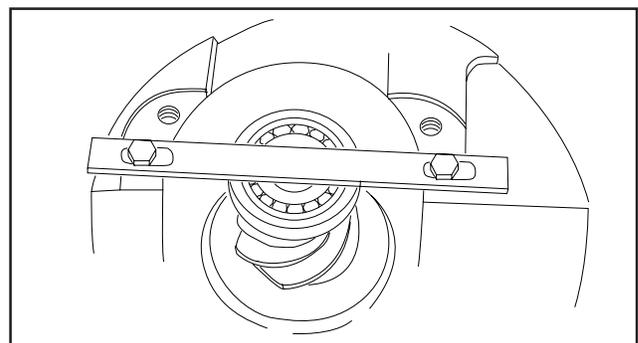

Figure 9
7. Install pinion into carrier using slow steady movement when sliding through inner bearing cup and seal. The pinion should be restrained from end movement by using a retaining strap. See Figure 9.